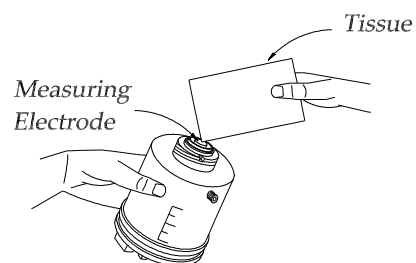

Fig. 4.2.5
6. After the electrolyte has been drained out, hold the sensor with the measuring electrode pointing upwards and inspect the electrode. If necessary, clean the electrode with a clean soft tissue (fig. 4.2.5). Make sure the tissue is not impregnated with any kind of chemical.